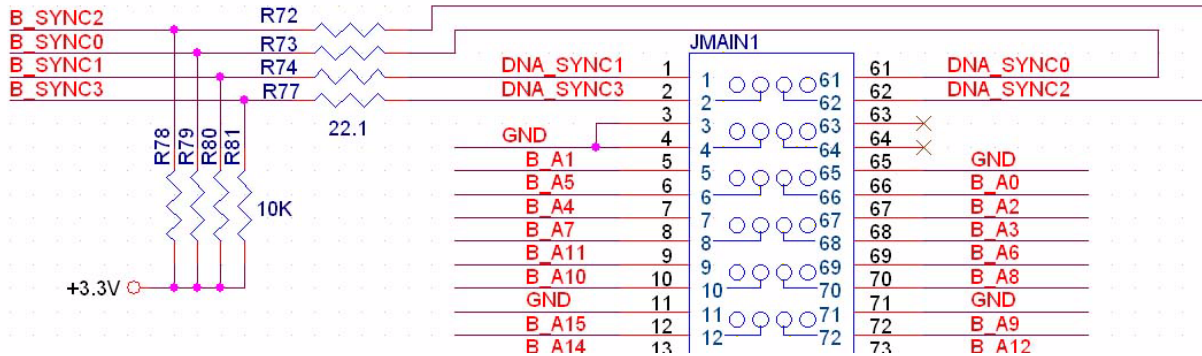

Figure 1-9 Schematic of Sync Connections on Cube I/O Board
- On a Cube chassis, interboard signals are bused through stacked connectors. **Figure 1-9** shows SYNC lines routed to connector labeled JMAIN1.